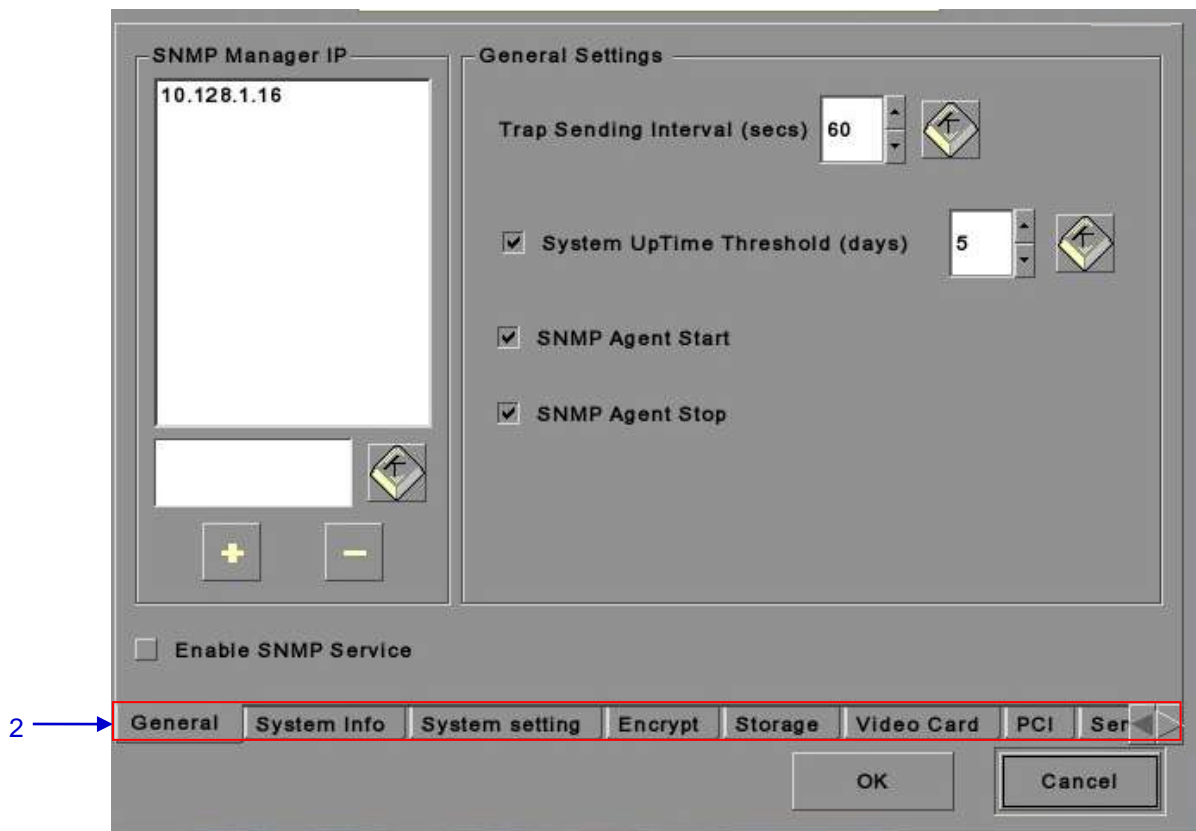

Figure 15 SNMP Configuration [General].
- 1 On the **Configuration** menu, select **SNMP Setup**. A new window appears as seen in **Figure 15**.